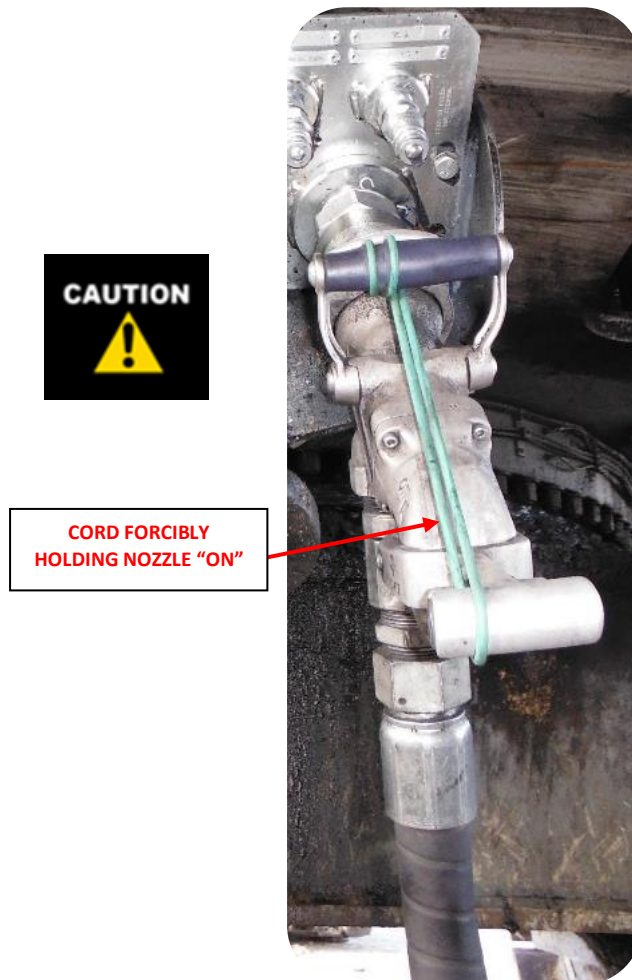

Figure 23 - Nozzle Forcibly Held "ON" (Open)
- Refuelling operators who manually override the automatic tank pressure shut off function of Banlaw Nozzles by holding or using some device (i.e. O’ring) to maintain the nozzle in the open position – e.g. refer Figure 23.